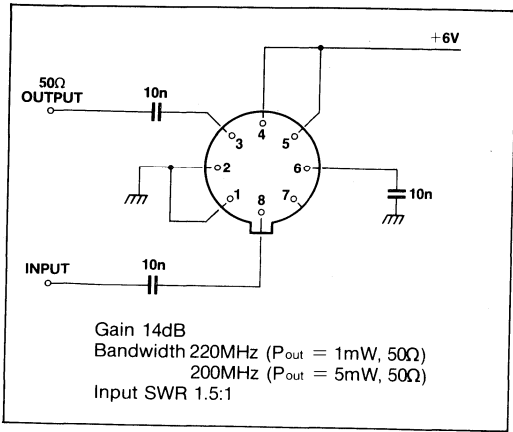

Fig.6 50Ω line driver. The response of this configuration is shown in Fig.4.
**ELECTRICAL CHARACTERISTICS****Test conditions (unless otherwise stated):**Frequency = 30MHz;  $V_{CC} = 6V$ ;  $R_s = R_L = 50\Omega$ ;  $T_{amb} = 25^\circ C$ ; Test Circuit: Fig.6